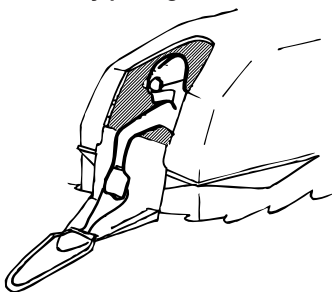

Fig. 3: Closing the hatch
1.3 CLOSING THE HATCH. (FIG. 3)